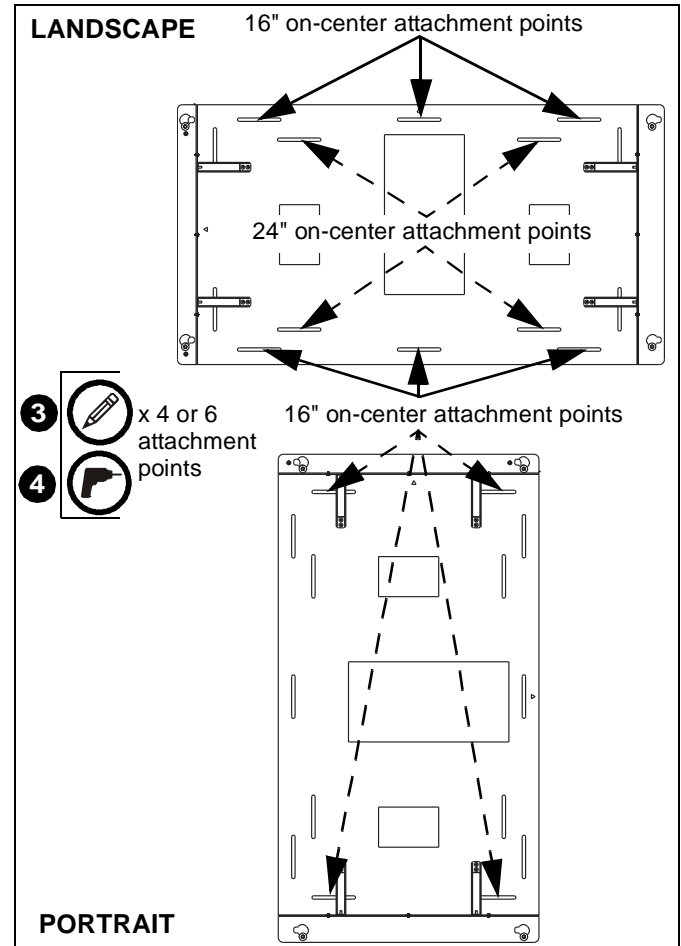

Figure 2
2. Level and adjust PSMO2085 making certain slots at upper and lower edges are properly positioned over studs for either a 16" on-center wood studs installation (landscape or portrait) or a 24" on-center wood stud installation (landscape only). (See Figure 2)
3. Mark the location of four or six mounting holes onto wall. (See Figure 2)
4. Drill four or six pilot holes at marked locations. (See Table 1) and (See Figure 2)